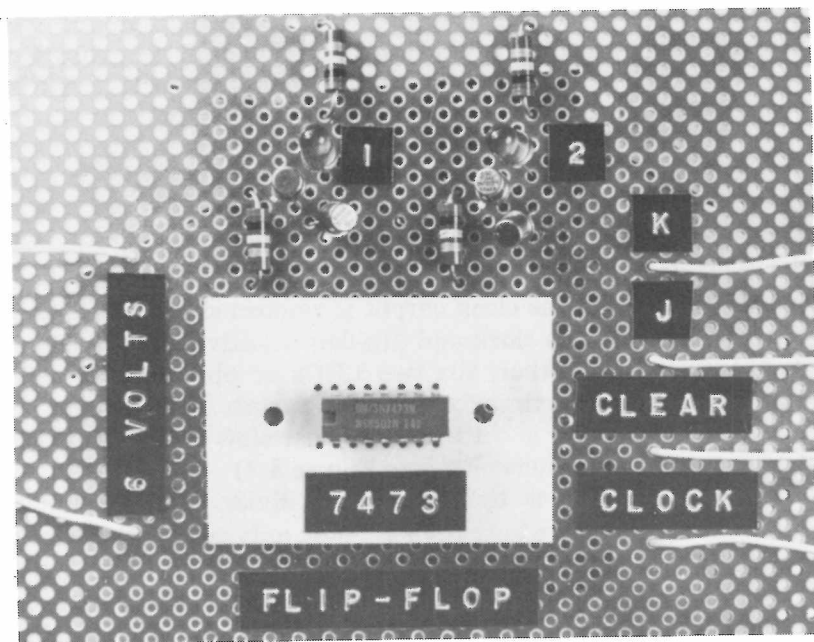

Figure 11-2. Assembled TTL flip-flop.
the solder pads which make contact with pins 4, 5, 6, 7, 8, 9, 10, and 11 on the IC. Mount the IC on a perforated board as shown in the photograph in Figure 11-2 by inserting the connection leads through holes in the perforated board. No pictorial view of the flip-flop is necessary since other than the logic-status indicators no external components are used. Then thread the connection leads to pins 4 (+6 volts), 11 (ground), 5 (CLOCK input), 6 (CLEAR), 7 (J), and 10 (K) through holes in the board as shown in the photograph of the prototype. Identify each lead with a tape labeler to prevent confusion.